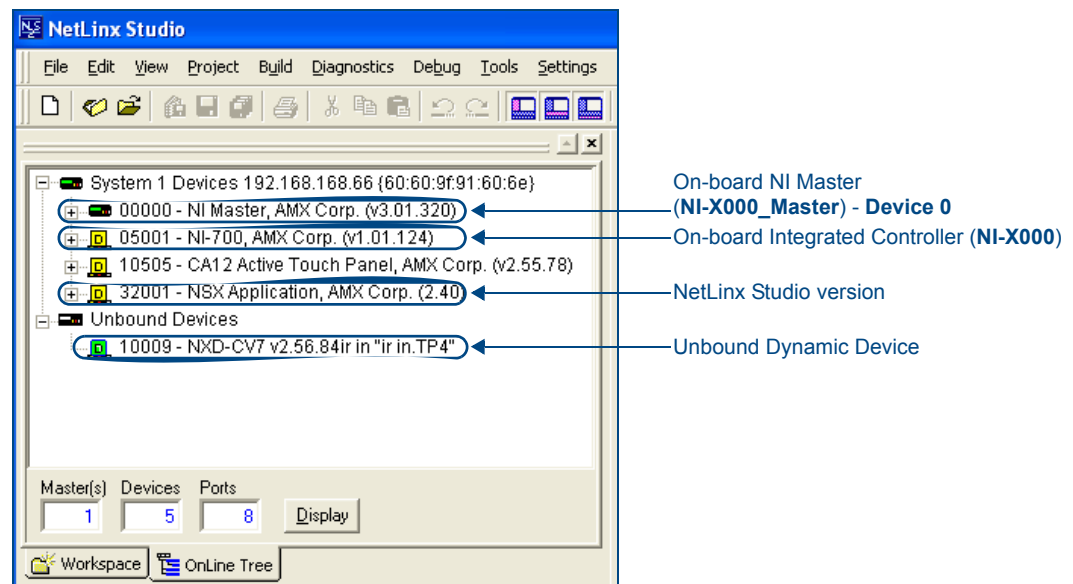

FIG. 7 Sample NetLinx Workspace window (showing separate NI-Master and Controller)
2. After Studio has established a connection to the target Master, click the **OnLine Tree** tab of the Workspace window to view the devices on the System. *The default System value is one (1).*
4. After the Communication Verification dialog window verifies active communication between the PC and the NI unit, verify the Integrated Controller appears in the **OnLine Tree** tab (FIG. 7) of the Workspace window (ex: *NI-4000* or *NI-700*). This entry is different than the NI Master which uses a device value of *00000* (see below):